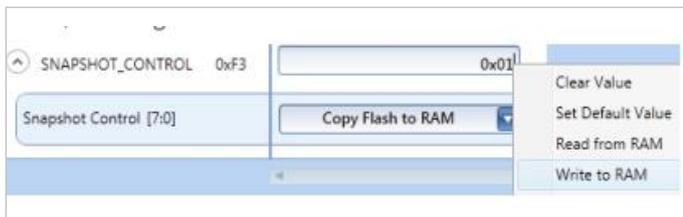

Figure 13: Write of SNAPSHOT_CONTROL in register view
3. Restore snapshot data from NVM to RAM by writing 0x01 to SNAPSHOT_CONTROL. This can be done in the Registers view by right-click and choose Write to RAM, see Figure 13.